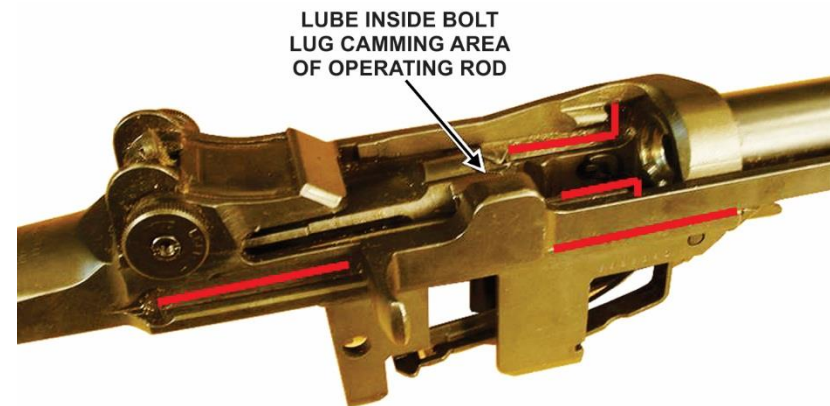

Figure 66. Lubrication
- 1) Lubricating gun oil or grease is used for lubricating the rifle at normal temperatures. It should be applied to the areas shown in Figures 66 through 68. Apply lube sparingly to key points.